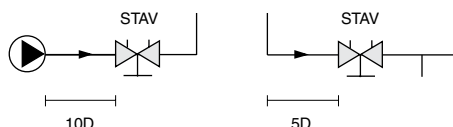

Fig 1. D = Valve DN
- 2 the piping in the inlet side is straight and has a minimum length according to Fig. 1.
N.B. To ensure flow measurement accuracy it is essential that the piping in the inlet side is straight and has a *minimum* length according to Fig. 1.